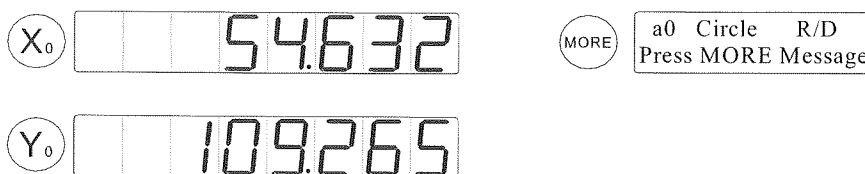

Figure 3-10
16. Probe and enter a minimum of 3 points to measure the circle feature, and the messages are displayed as in figure 3-10